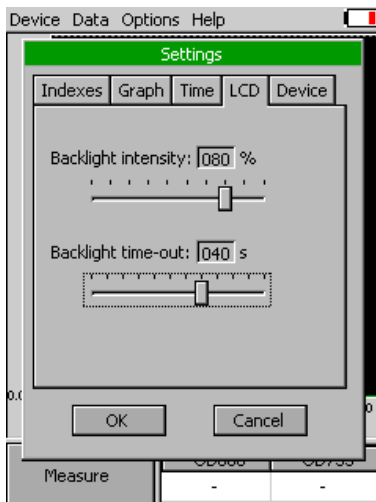

Fig. 10 Settings - LCD.
- **LCD** - is used to adjust LCD display control settings (Fig. 10).